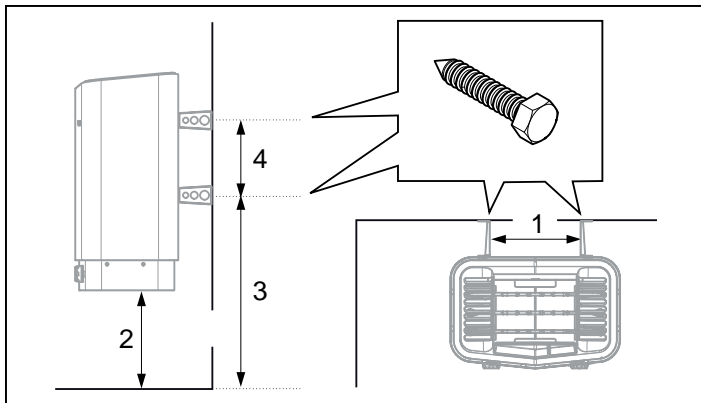

Figure 10: Dimensioning
9. Position the bracket screws according to the specified dimensioning see Fig. 10.